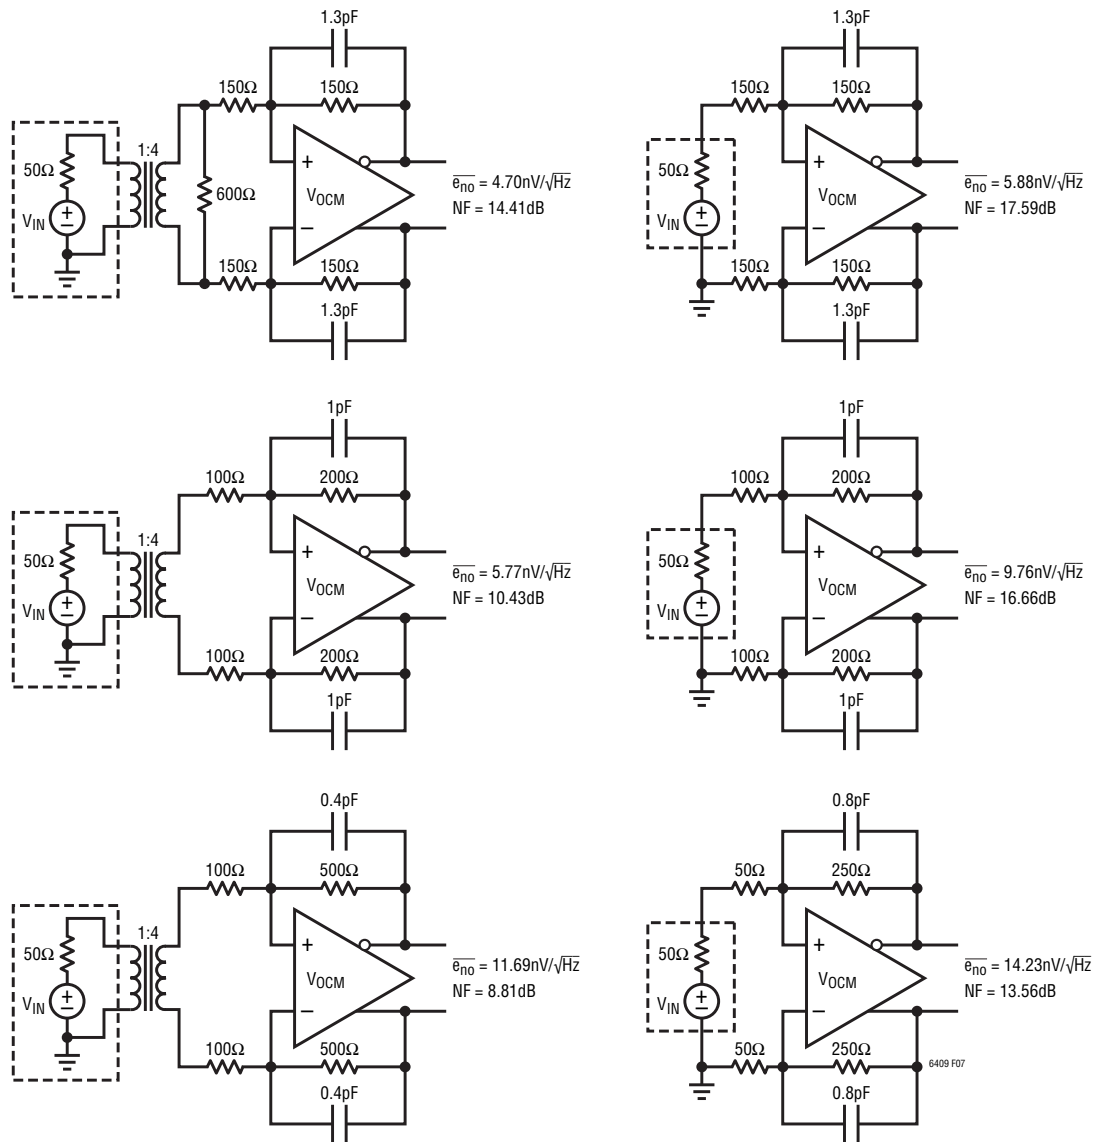

Figure 7. LTC6409 Measured Output Noise and Noise Figure at Different Closed Loop Gains with and without Source Impedance Matching
Figure 7 specifies the measured total output noise (e_{no}), excluding the noise contribution of source resistance, and noise figure (NF) of LTC6409 configured at closed loop gains ($A_V = R_F/R_I$) of 1V/V, 2V/V and 5V/V. The circuits in the left column use termination resistors and transformers to match to the 50Ω source resistance, while the circuits in the right column do not have such matching. For simplicity, DC-blocking and bypass capacitors have not been shown in the circuits, as they do not affect the noise results.